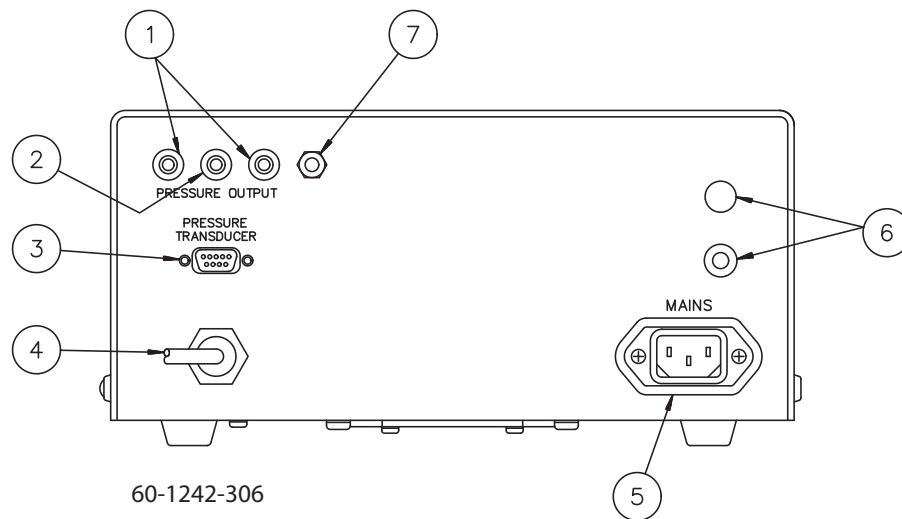
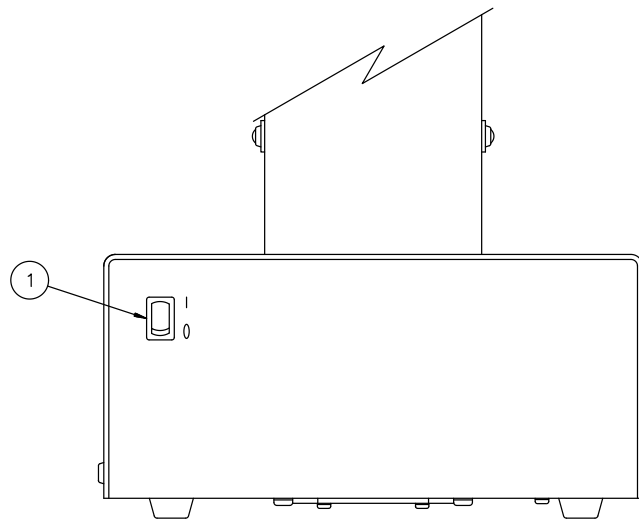

Figure 1-7 Pump rear panel connectors
Figure 1-8 Pump front panel controls
The only operational control on the pump itself is the power switch, shown in Figure 1-8. The rear panel has several connectors, described in Table 1-13, and shown in Figure 1-7.
1. Connect the pressure transducer cable (which originates from the top of the pump cylinder) to the nine pin sub-D PRESSURE TRANSDUCER connector on the pump rear panel (Figure 1-7). Be sure to tighten the thumbscrews.